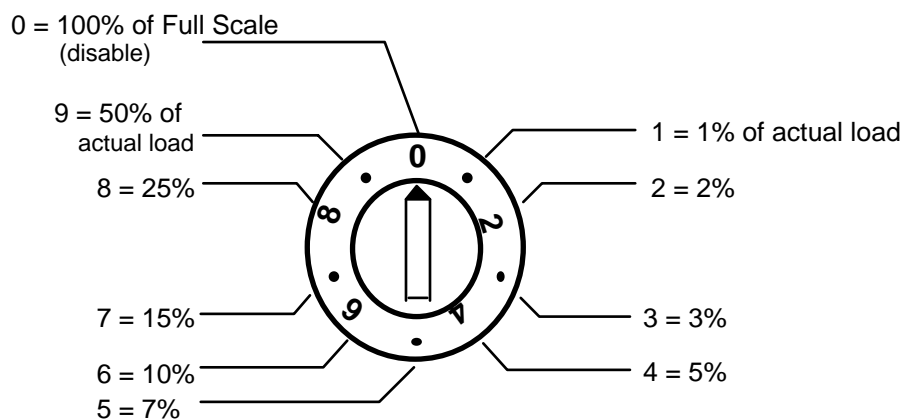

Figure 4-2. Percent repeatability selector switch
3. Look at Figure 4-2 to become familiar with the selector settings. (This drawing is also shown on a label inside the AutoSet Plus door.) The selector dial has settings from 0 to 9. Each setting represents a percent. The first dot to the right of 0 is 1. 1 = 1%; 2 = 2%; 3 = 3%; 4 = 5%, and so on.